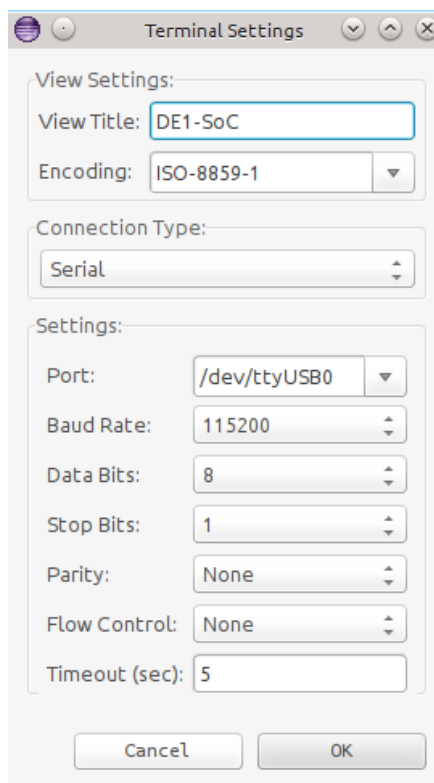

Figure 13-10. ARM DS-5 Serial Terminal Settings
74. Modify the serial terminal’s settings to match those shown in Figure 13-10, then press “OK” to start the connection.